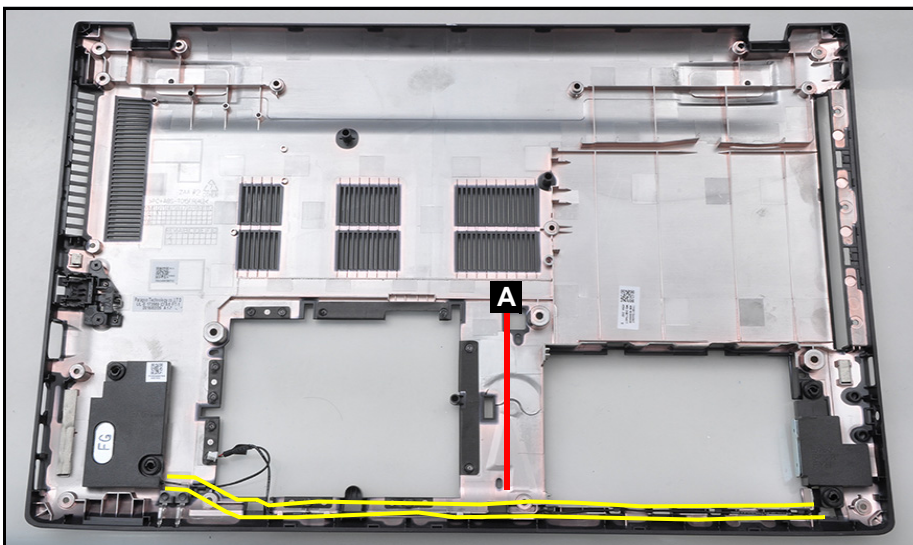

Figure 3-21. Speaker Module Removal
1. Place the base cover on a flat surface (Figure 3-21).
2. Remove the speaker cable (A) from the cable guides (Figure 3-21).